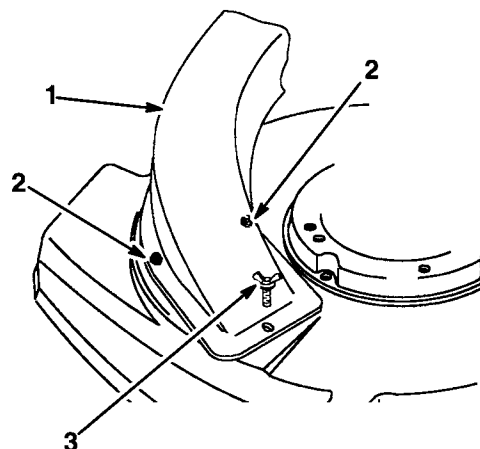

Figure 38
2. Place chute assembly into housing opening (Fig. 38).
5. Secure chute assembly to housing with a wing screw (Fig. 38).